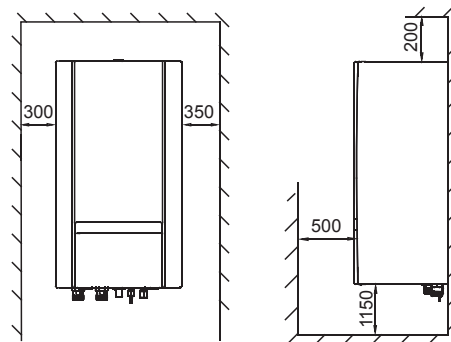

Fig. 6-3
- The space around the unit is adequate for serving, see figure 6-3.
- Required service space, see figure 6-3.